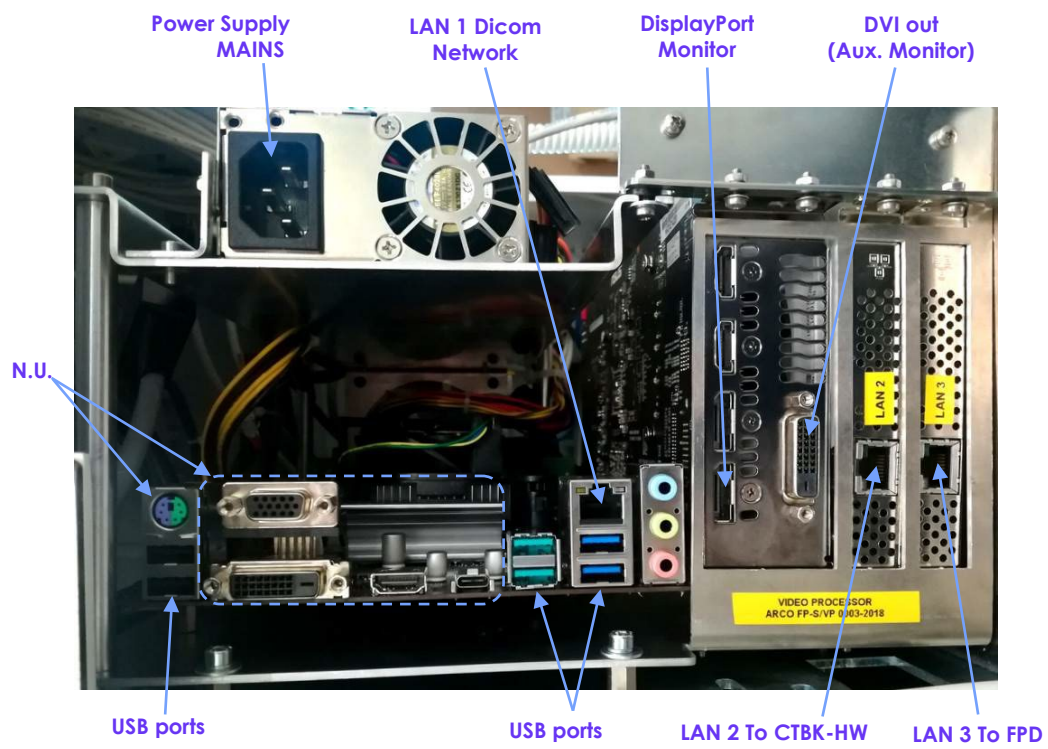

Fig. 3
- Assemble the monitor support arm **(B)** and fix it by tightening the 4 screws **(V1)**; fix the covers with the 4 screws **(V2)**. See Fig.3.
- Mount the monitor support/handle (**S**) to the monitor (**M**), inserting in between the spacer (**D**) and tightening only the 2 screws (**V3**) letting them stick out temporarily some 5/6 mm – fig.3/ fig.4 /fig.5.